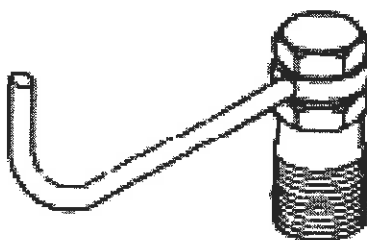

Figure 11 Injection Timing Nozzle
- Install the injection timing nozzle 7270-2003-008 (Figure 11) in the fuel pump.